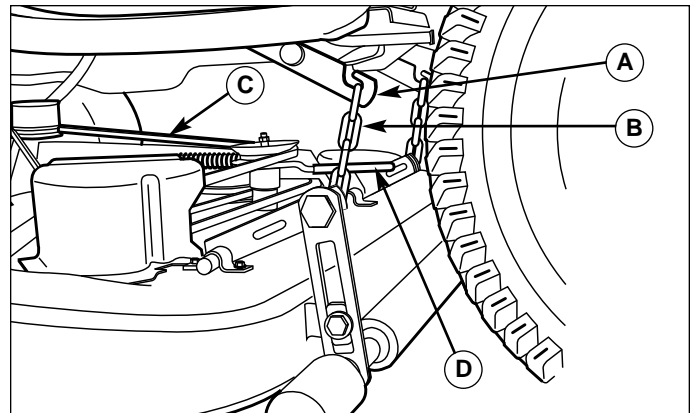

Figure 4. Mower Lift
3. Use the idler arm (D, Figure 4) to release tension on the PTO belt, and remove belt from the PTO pulley.
4. Pull down on the lift hooks (A, Figure 4) and unhook
4. See Figure 4. Connect the mower lift chains (B) to the the tractor lift hooks (A).
5. See Figure 4. From left side of tractor, use the idler arm (D) to relieve belt tension. Install belt (C) onto the PTO pulley.